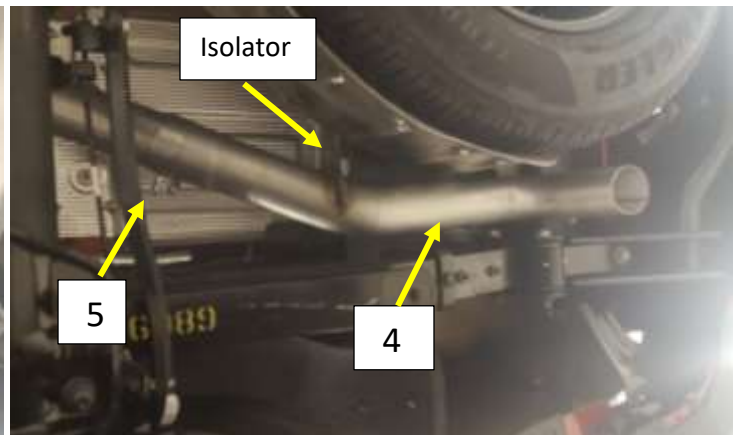

Figure 7
15. Install a supplied 3.0" band clamp (5) onto the expanded end of the turn down tailpipe (4) with the bolt at the top and the nut facing the ground. **Fig. 7**